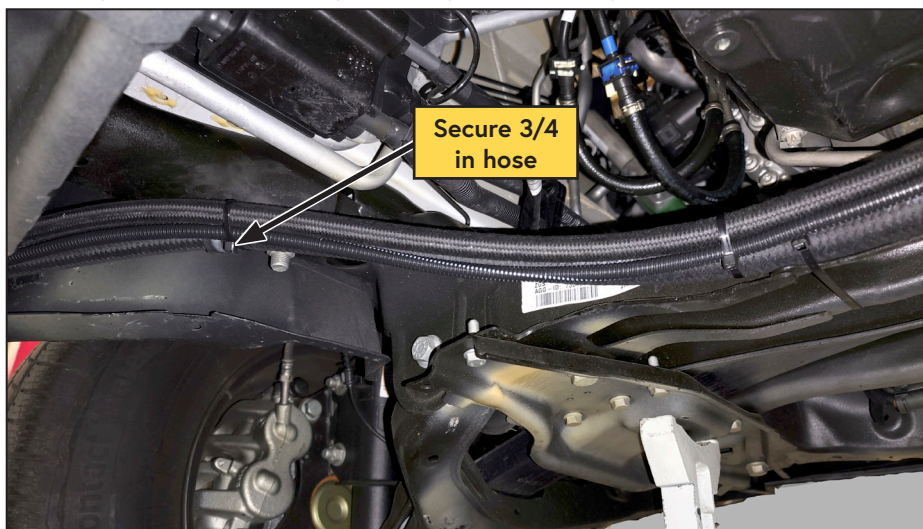
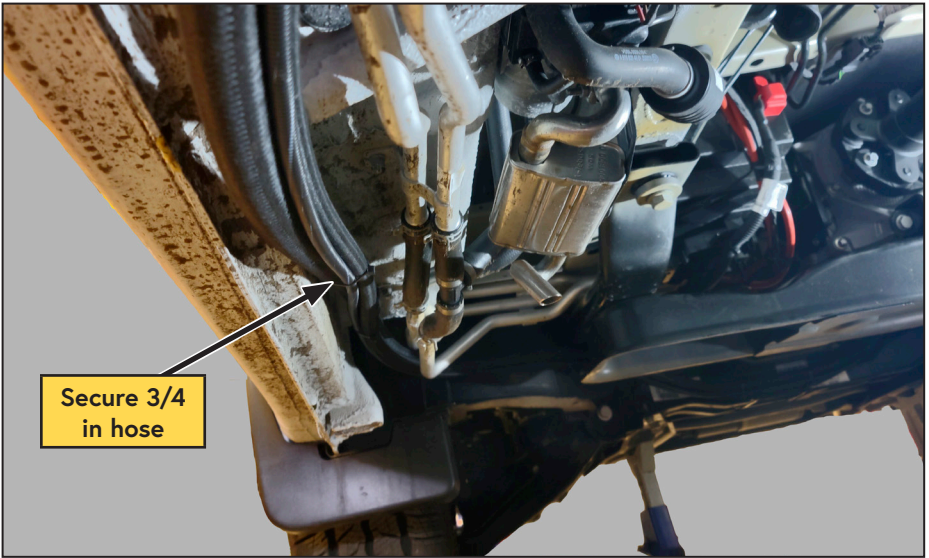
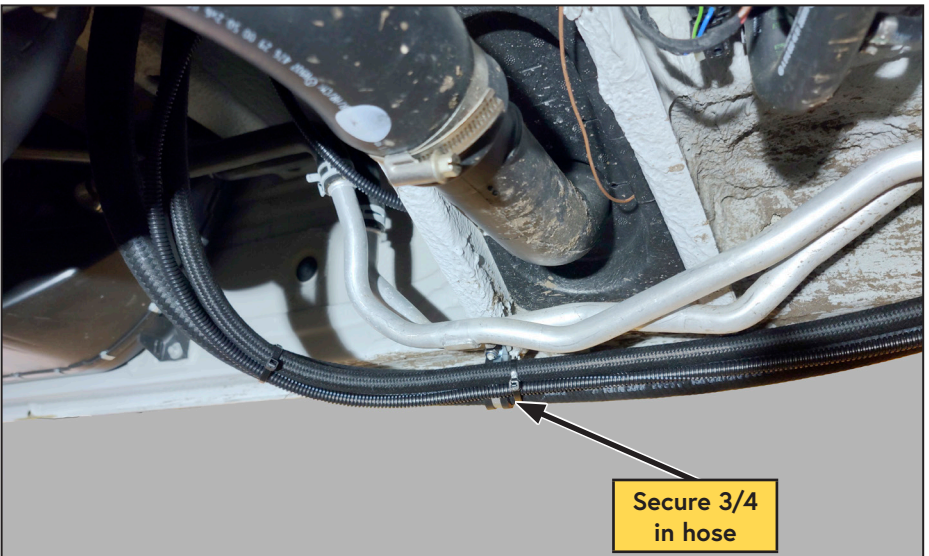

Figure 31 — Route hoses
Figure 32 — Route hoses
Figure 33 — Route hoses
- Route the hoses along the base of the frame/body, and up to the bulkhead fittings installed earlier (Figure 31, Figure 32, and Figure 33).
- Using the supplied P-clips and fasteners, secure the 3/4 in hose to the 6 mm studs on the body (Figure 31, Figure 32, and Figure 33).